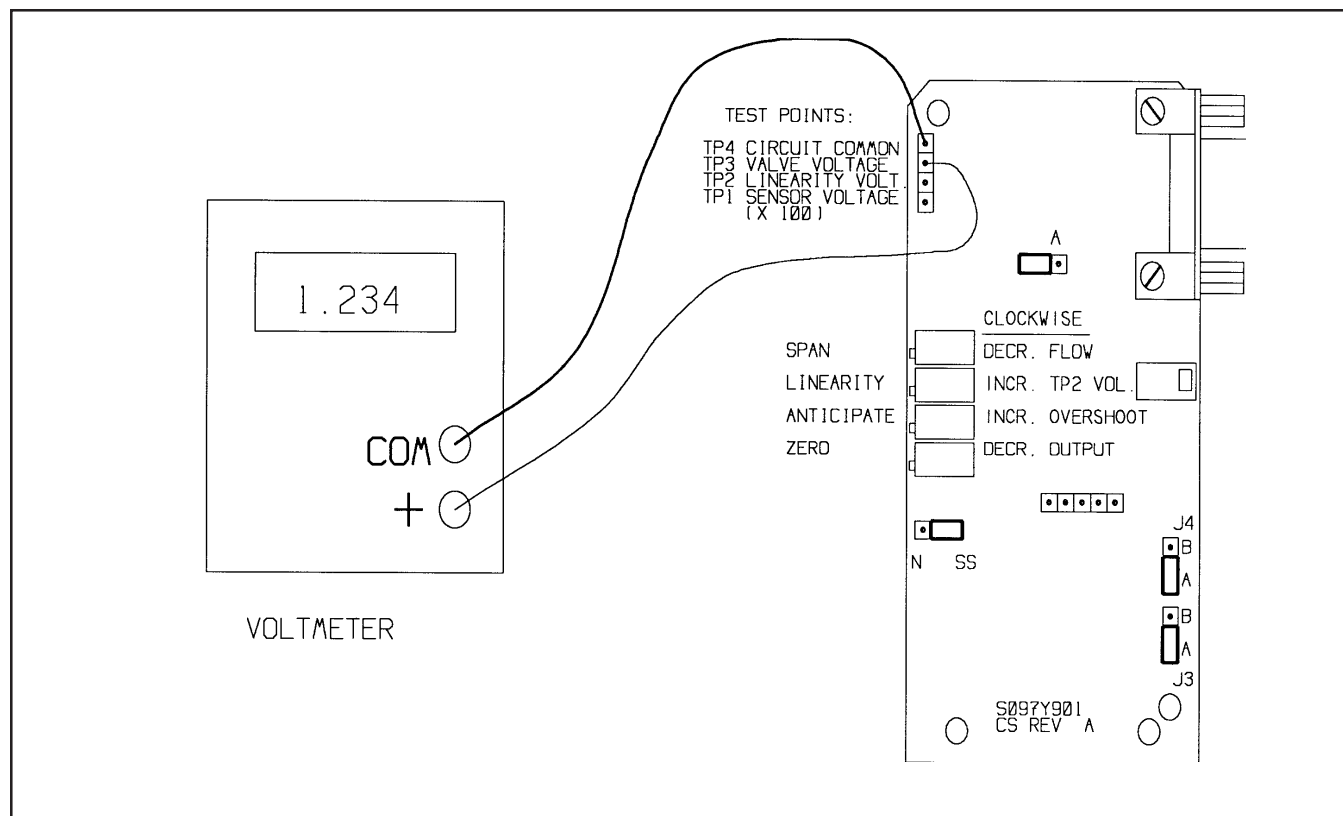

Figure 4-3 Voltmeter Connections for Valve Adjustment
- i. Measure the valve voltage by connecting a voltmeter between test point 3 (TP3) and test point 4 (TP4). Refer to Figure 4-3.